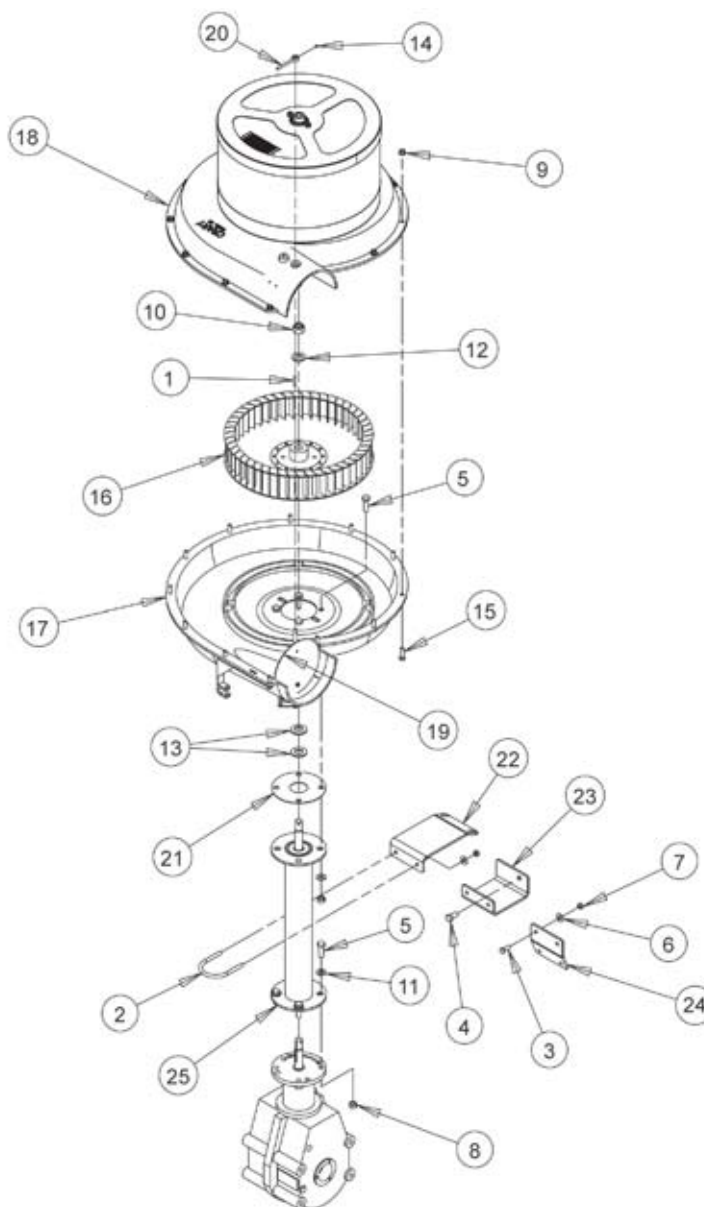

Figure 37, Gearbox/fan extension
1. Separate gearbox and fan. Refer to Figure 37.